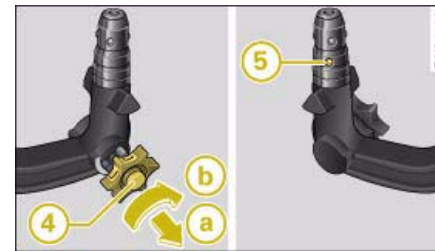

Fig. 210 Removable towing bracket: Setting the spring mechanism to the "ready" position
- Insert the key (4) => fig. 210 for locking the ball joint into the lock on the knob and turn it clockwise. ▶